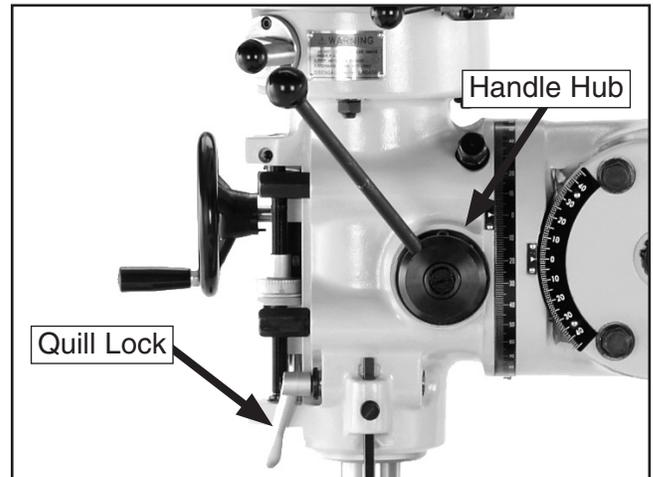

Figure 36. Coarse downfeed handle installed.
3. Align the pin in the handle hub with one of the holes in the handle base, then firmly seat the handle onto the base (see **Figure 36**).
4. Make sure the quill lock is loose (see **Figure 36**), then rotate the coarse downfeed handle around its hub to control the depth of the spindle.